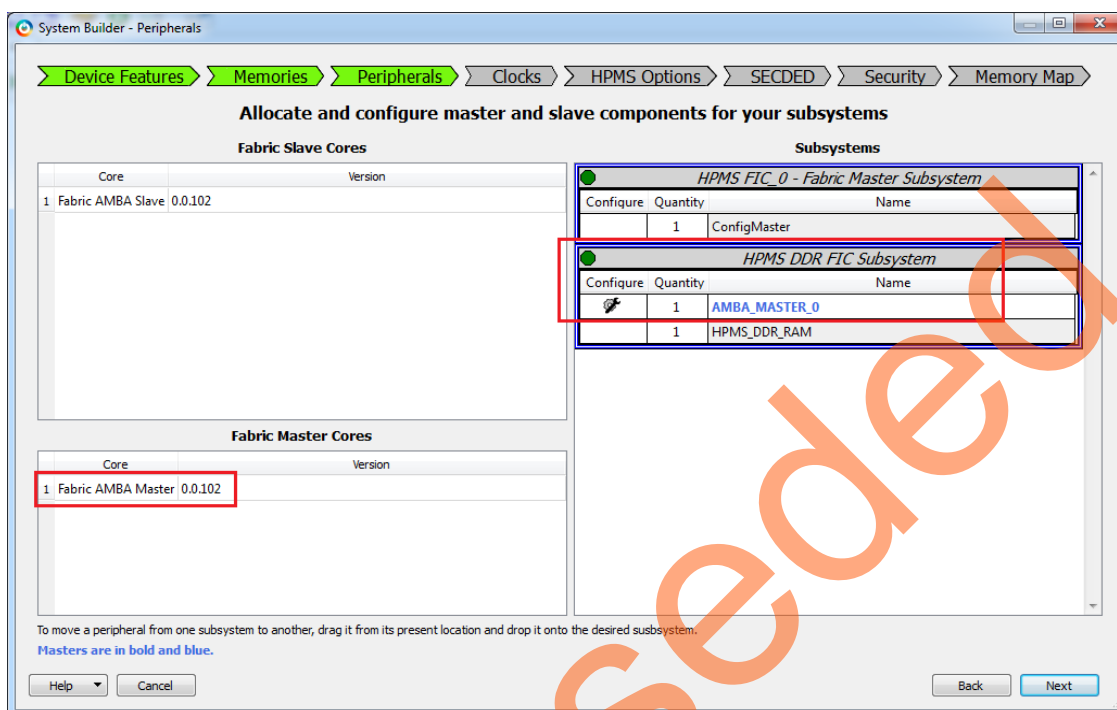

Figure 10 • Peripherals Tab with the Fabric AMBA Master Added
4. In the **Peripherals** tab, drag the **Fabric AMBA Master** and drop on to the HPMS DDR FIC Subsystem. The **AMBA_MASTER_0** is added to the subsystem and configured the Interface Type as AXI. Figure 10 shows the **Peripherals** tab with the **AMBA_MASTER_0** added.